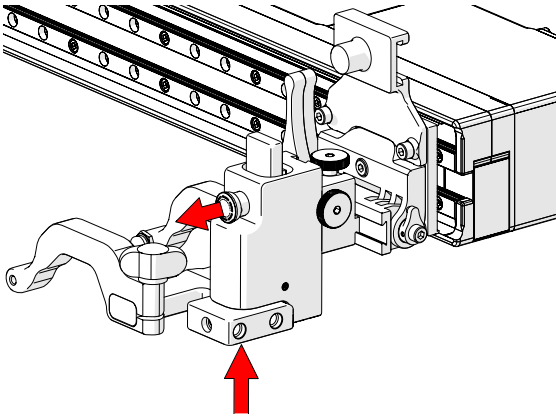
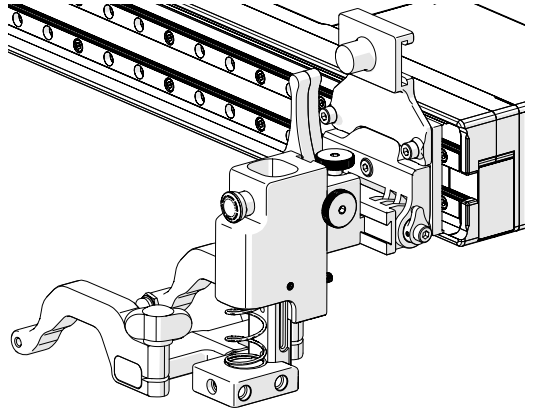

Fig. 94 - Press up and pull latch
Fig. 95 - Lowered toward scan surface
1. Gently lift the heavy duty vertical probe holder and simultaneously pull the latch (*Fig. 94*). This action will unlock the probe holder. Slowly lower the probe holder towards the scan surface (*Fig. 95*).